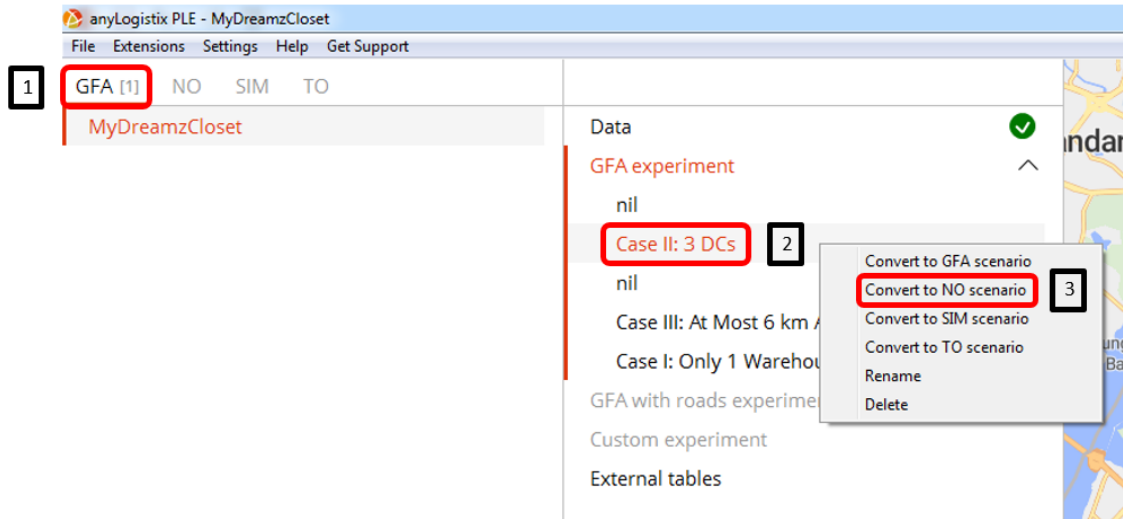

Figure 45: Converting GFA to NO
- ✓ Figure 45 shows how we convert GFA to NO.